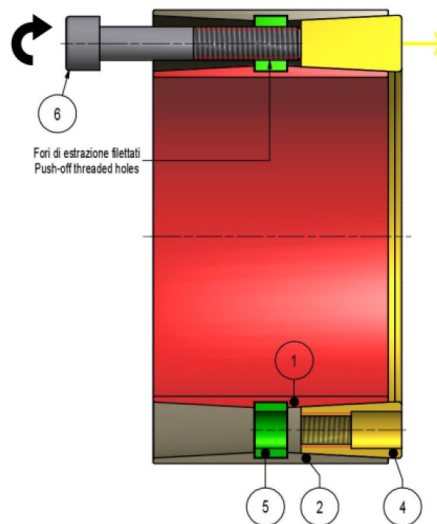

Fig. 6
3. Transfer some screws into all push-off threaded holes in the central ring. **Progressively tighten these screws in a crosswise pattern, using approx. ¼ turns for several passes** until rear thrust ring is released (fig. 6). Leave these screws in place after rear thrust ring is released.